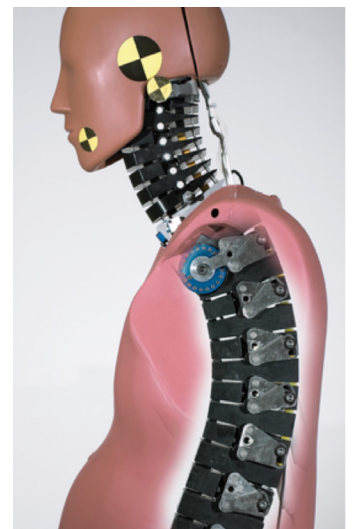

Figure 2
5. When the IIHS conducts rear-end crash tests of seats and head restraints, the front seat is removed from a vehicle and bolted to a steel sled. A special dummy is then belted into the seat. *This special dummy, called a BioRID rear-impact dummy (see Figure 2), has a spine composed of 24 articulated vertebra-like pieces that produce the same movements that occur in human necks and spines during real-world rear-end vehicle crashes.* The sled is then hit from behind by an air-powered ram while the sled is standing still.